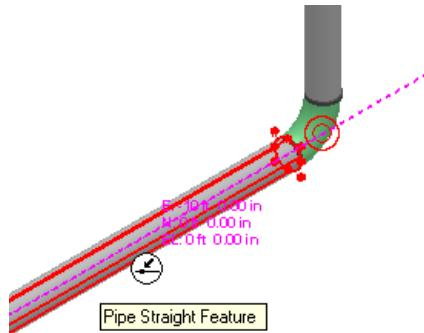

Figure 16: Pipe Straight Feature
6. Position the cursor along the **Pipe Straight Feature**, as shown in Figure 16 and click to define the active placement point.